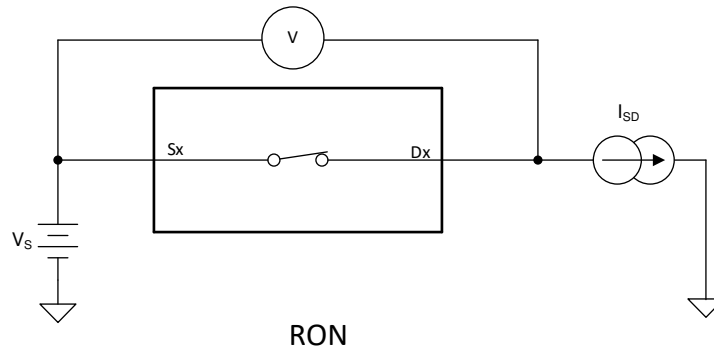

Figure 6-1. On-Resistance Measurement Setup
The on-resistance of a device is the ohmic resistance between the source (Sx) and drain (Dx) pins of the device. The on-resistance varies with input voltage and supply voltage. The symbol R_{ON} is used to denote on-resistance. Figure 6-1 shows the measurement setup used to measure R_{ON} . Voltage (V) and current (I_{SD}) are measured using this setup, and R_{ON} is computed with $R_{ON} = V / I_{SD}$: